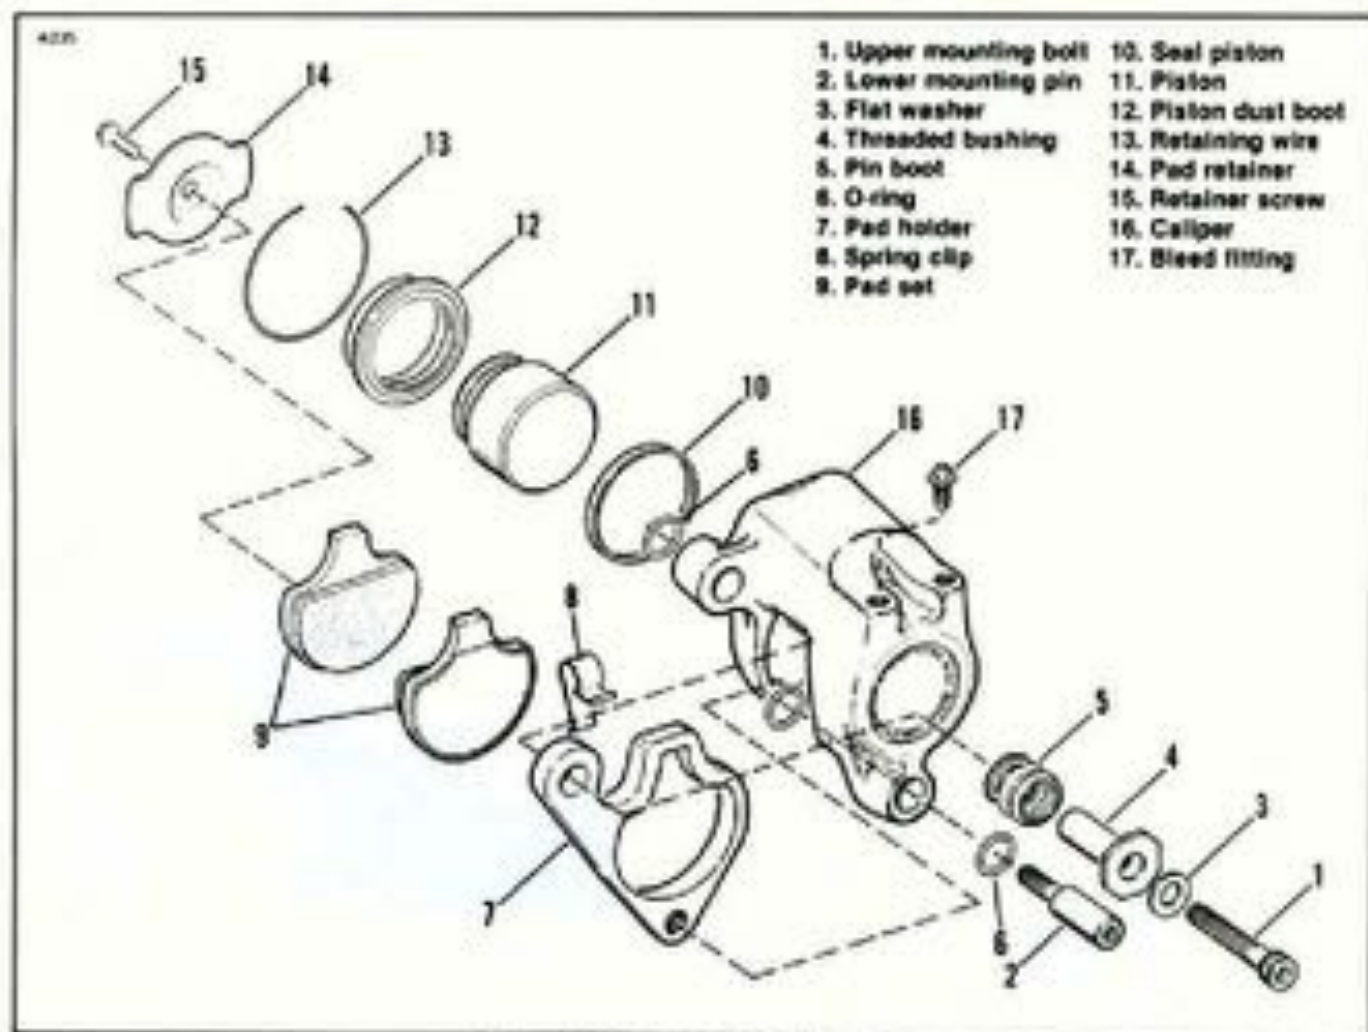
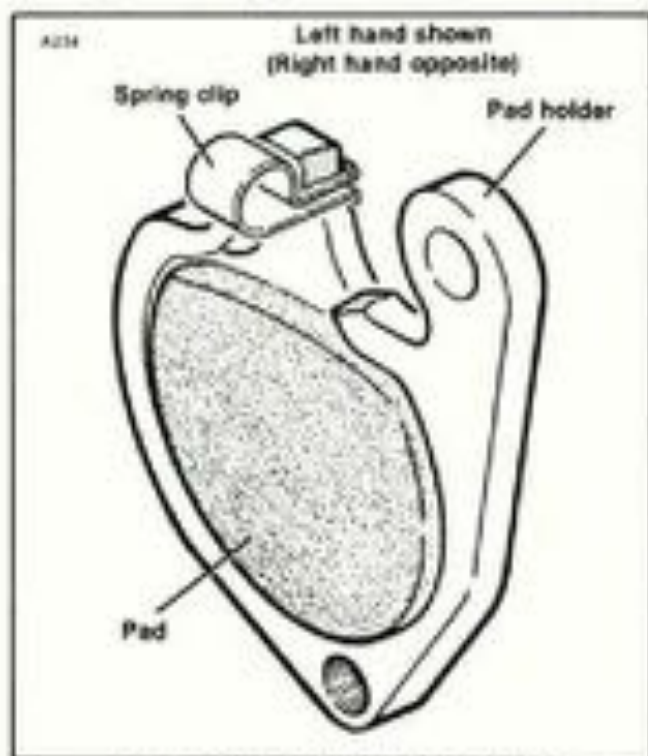

Figure 2-59. Front Brake Caliper (left)
Figure 2-60. Spring Clip Installation
## FRONT BRAKE CALIPER 1984 FX MODELS (Figure 2-59 and Figure 2-60)
4. Position the gap of the retainer wire at the top of the caliper and compress the retainer wire (13) into the piston bore. Push the retainer wire firmly against the piston dust boot.
7. Lay the pad holder (7) down on a firm flat surface. The upper mounting bolt hole must be positioned at the upper right.
8. Install the spring clip (8) at the top of pad holder (7) as shown in Figure 2-60.
9. Take pad (9), the pad that has the insulator backing, and place it on top of the spring clip with the lower end of the pad slightly entering the opening of the
### Installation (Figure 2-59)